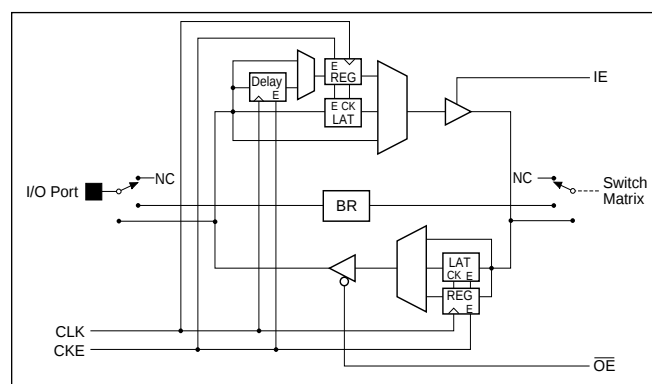

Figure 4. Programmable I/O Port
Each signal line in the Switch Matrix is connected to a programmable I/O Port. The functional attributes of individual I/O Ports can be programmed independently. The I/O Port attributes include its signal direction (in, out or bidirectional), data flow mode (flow-through, registered or latched), and pull-up current. Figure 4 shows the structure of the programmable I/O Port. The sources for the four control signals: clock (CLK), clock enable (CKE), input enable (IE), and output enable ($\overline{OE}$) are also programmable and are described later in the section "I/O Control Signals."